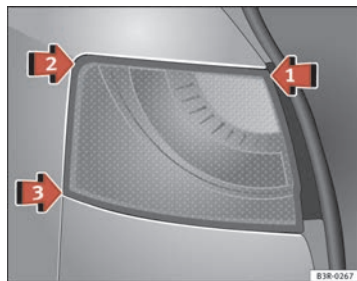
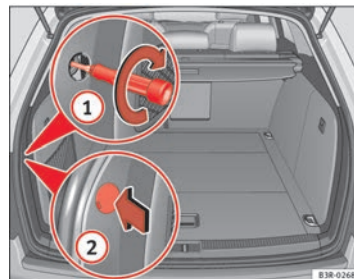

Fig. 230 Fitting the rear light unit
Fig. 231 Luggage compartment: Location of the bolt securing the rear light unit
- First place the rear light unit in ⇒ fig. 230 arrow ① in the housing.
- Gently press the rear light unit against the housing, first in position ② and then in position ③, until that the clips engage firmly in the rubber mountings.
- Apply gentle pressure to the front side of the rear light unit and secure using the screwdriver, from the luggage compartment ⇒ fig. 231 ①.
- Fit the cover back onto the screw, with the notch pointing to the rear ②.